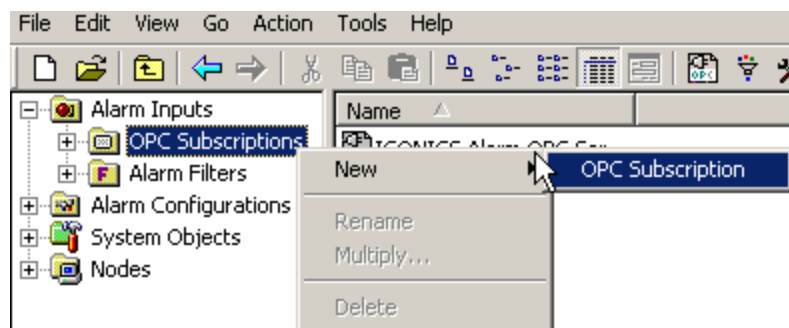

Figure 2.1. Creating a New Subscription
1. Click the **Insert New Subscription** button on the Configurator toolbar, or right-click the **OPC Subscriptions** folder (found under the **Alarm Inputs** folder on the tree control) and select **New > OPC Subscription** from the pop-up menu, as shown in **Figure 2.1**.